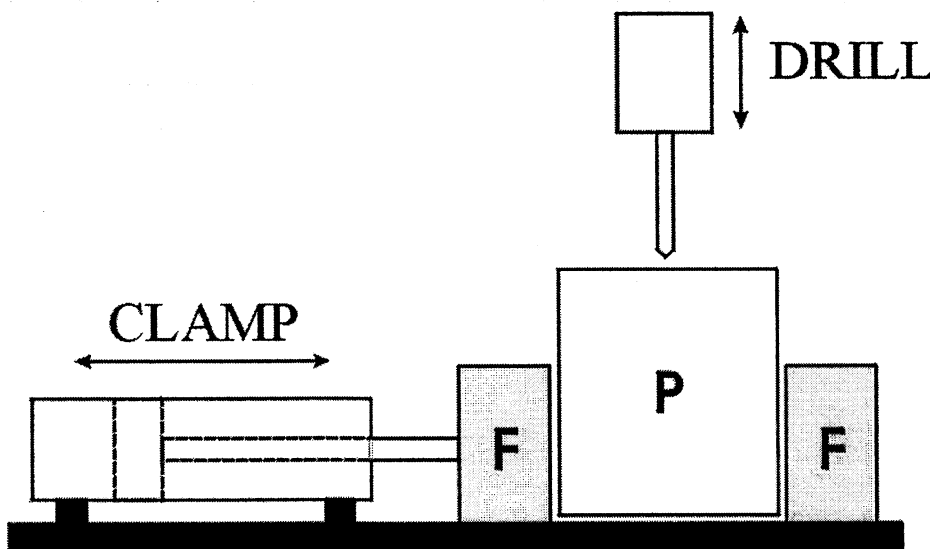

Fig. 2
b) You are required to automate a drilling operation illustrated in Figure 2.